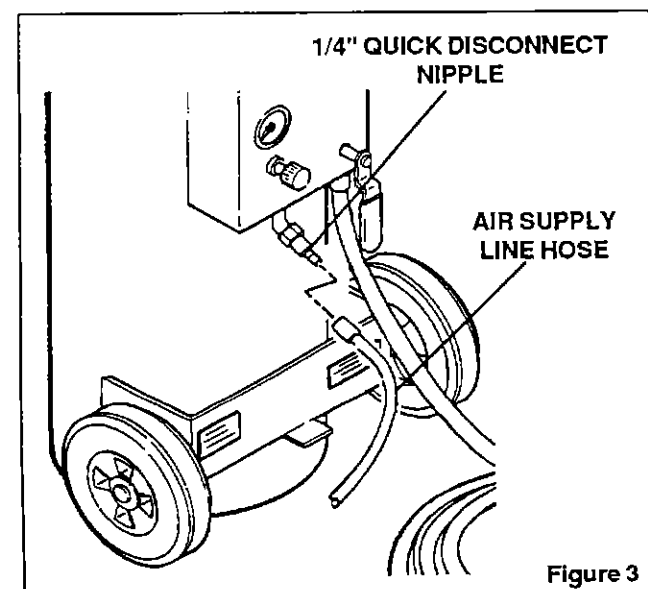

Figure 3
7. Pressurize the tank by connecting the air supply line hose to the 1/4" (6.3 mm) industrial interchange quick disconnect nipple on the front control bracket (adjust the pressure regulator to 80 psi (5.5 bars), refer to Figure 3.